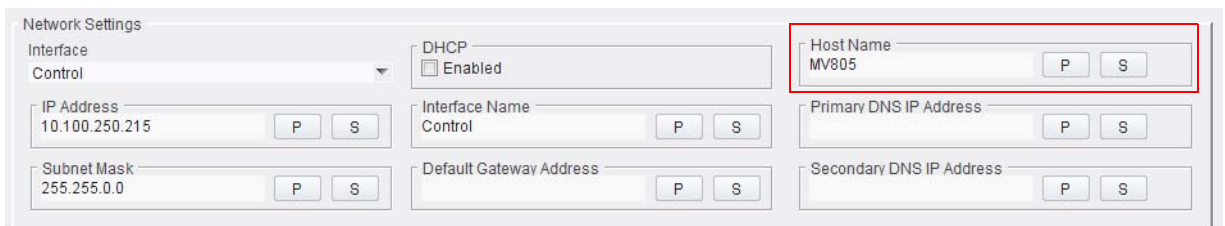

Figure 54 ‘Network Settings’ section of System-Setup Template
2. Look at the **Network Settings** section of the template. See Figure 54.